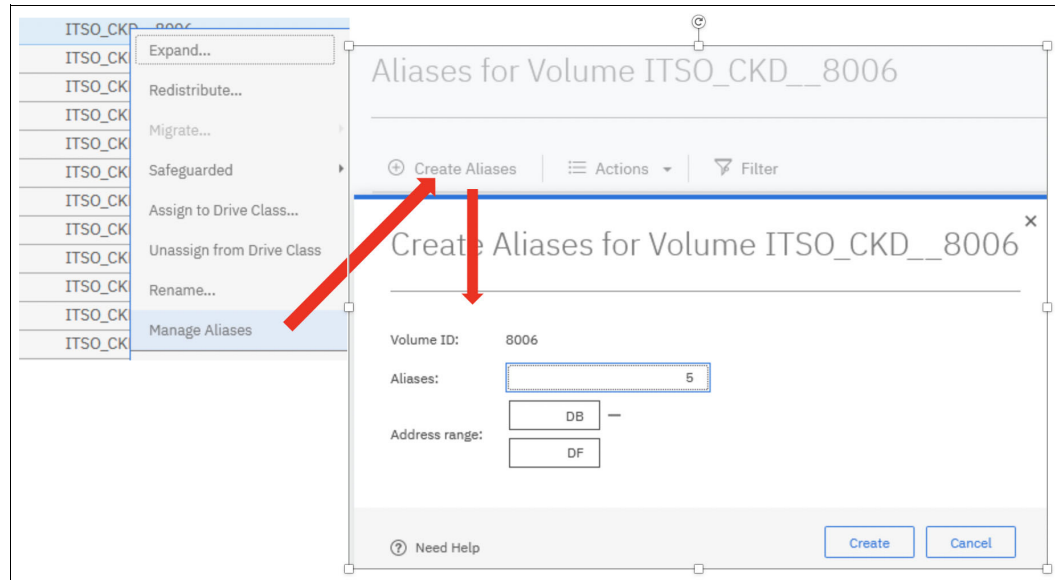

Figure 9-83 Configuring aliases for a single base volume
Note: The alias IDs start at FF and they are in descending order, as shown in Figure 9-83 on page 303.
- Aliases can also be created for a single base volume by selecting the base volume, right-clicking, and selecting **Action** → **Manage Aliases**. Then, select **Create Aliases**. Enter the number of aliases that you want for the base volume, as shown in Figure 9-83.